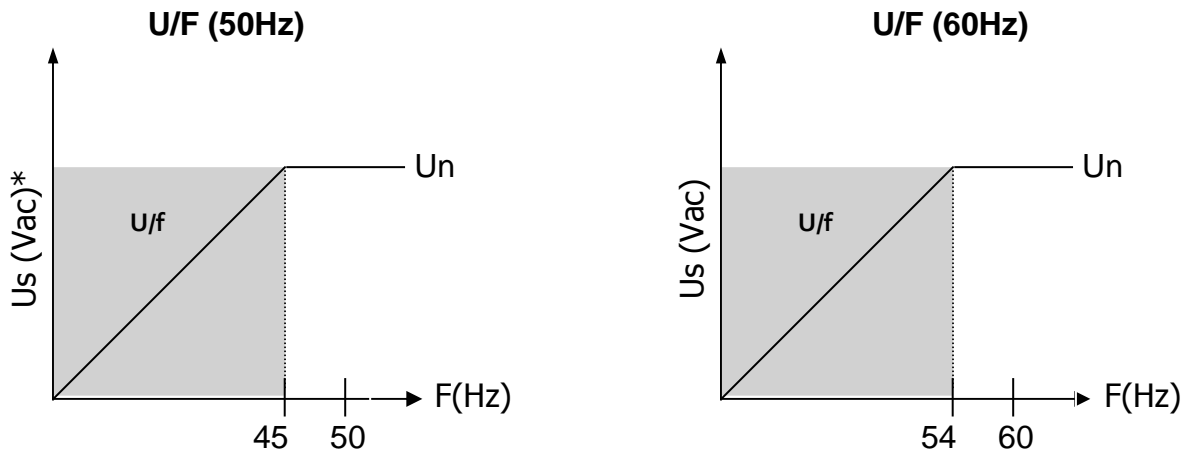

Figure 5: Operation of the protection U/F.
The trimpot **U/F** determines the actuation point in U/F mode that can be from the rated frequency (F_n) to $1/3$ of F_n , which value comes adjusted by the factory in 10% below F_n . For operation in 60Hz it's adjusted for 54Hz and for operation in 50Hz it's adjusted for 45Hz (see Fig. 5), this value can be changed according to the needs of each application.
1. Don't let the U/F protection opened. The configuration must be done according Figure 5 to avoid problems when shutting down. The frequency limited by U/F is the frequency of the waveform that is at the power supply input of the regulator and not at the sensing input.